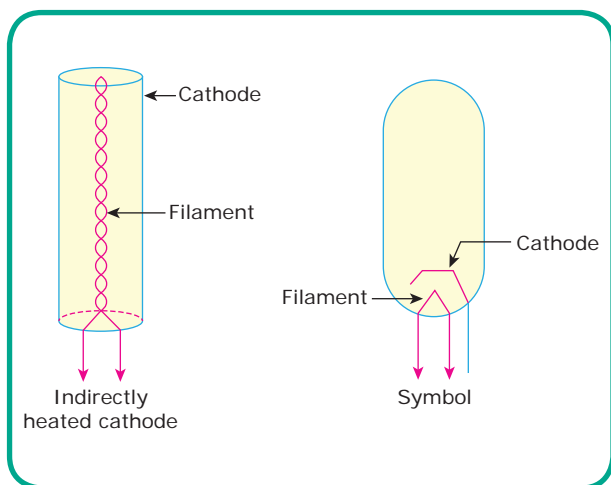

Figure 3.7 Thermionic emission
1. **Thermionic Emission:** In this method, the metal is heated to sufficient temperature (about  $2500^{\circ}\text{C}$ ) to enable the electron to leave the metal surface. The number of electrons emitted depends upon the temperature. The higher the temperature, the greater is the emission of electron. This type of the emission is employed in vacuum tubes and CRTS as shown in Figure 3.7.